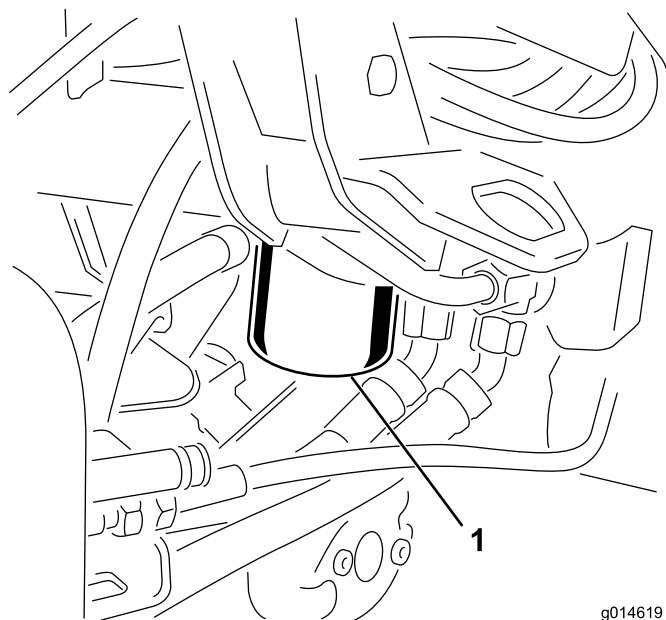

Figure 37
1. Clean the area around the filter mounting area (Figure 37). Place a drain pan under the filter and remove the filter.